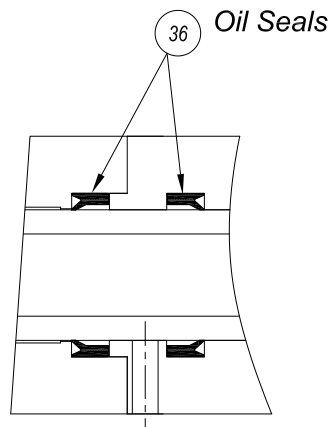

Figure 2: Fronthead/Extension Oil Seal [36] Fitting
4. Fit the HSRX fronthed [11] onto the 4 x threaded reverse cylinder tie rods [31] fitted to the fronthed extension [55], ensuring that the hydraulic nipple [16] is correctly orientated to the anti-rotation slot in the fronthed [11], as shown in the Figure 2: "Fronthead Orientation".